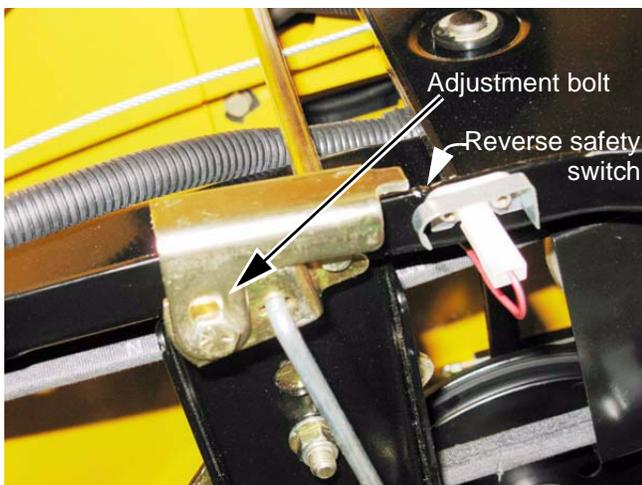

Figure 6.14
3. Loosen the adjustment bolt using a 1/2" wrench. See Figure 6.14.